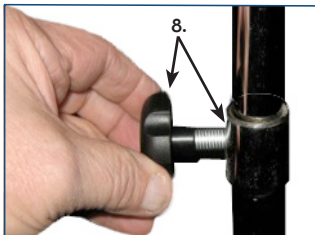

figure 8
8. Insert this end of the upper post into the upper portion of the lower post. Tighten the height adjustment knob. (figure 8)